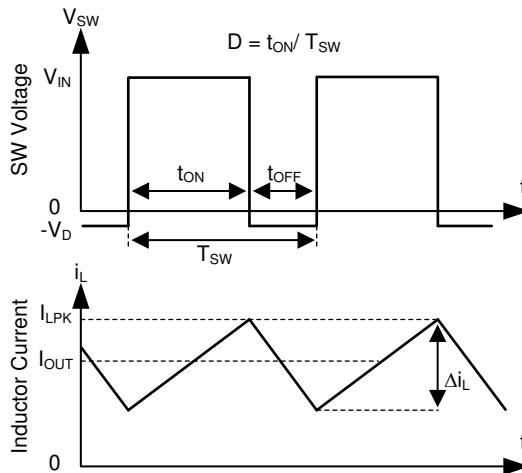

图 10-2. SW Node and Inductor Current Waveforms in Continuous Conduction Mode (CCM)
The following operating description of the TPS2586x-Q1 refers to the *Functional Block Diagram*. The TPS2586x-Q1 integrates a monolithic, synchronous, rectified, step-down, switch-mode converter with internal power MOSFETs and USB current-limit switches with charging ports auto-detection. The TPS2586x-Q1 offers a compact and high efficiency solution with excellent load and line regulation over a wide input supply range. The TPS2586x-Q1 supplies a regulated output voltage by turning on the high-side (HS) and low-side (LS) NMOS switches with controlled duty cycle. During high-side switch ON time, the SW pin voltage swings up to approximately  $V_{IN}$ . The inductor current  $i_L$  increases with linear slope  $(V_{IN} - V_{OUT}) / L$ . When the HS switch is turned off by the control logic, the LS switch is turned on after an anti-shoot-through dead time. Inductor current discharges through the LS switch with a slope of  $-V_{OUT} / L$ . The control parameter of a buck converter is defined as Duty Cycle  $D = t_{ON} / T_{SW}$ , where  $t_{ON}$  is the high-side switch ON time and  $T_{SW}$  is the switching period, shown in 图 10-2. The regulator control loop maintains a constant output voltage by adjusting the duty cycle D. In an ideal buck converter, where losses are ignored, D is proportional to the output voltage and inversely proportional to the input voltage:  $D = V_{OUT} / V_{IN}$ .